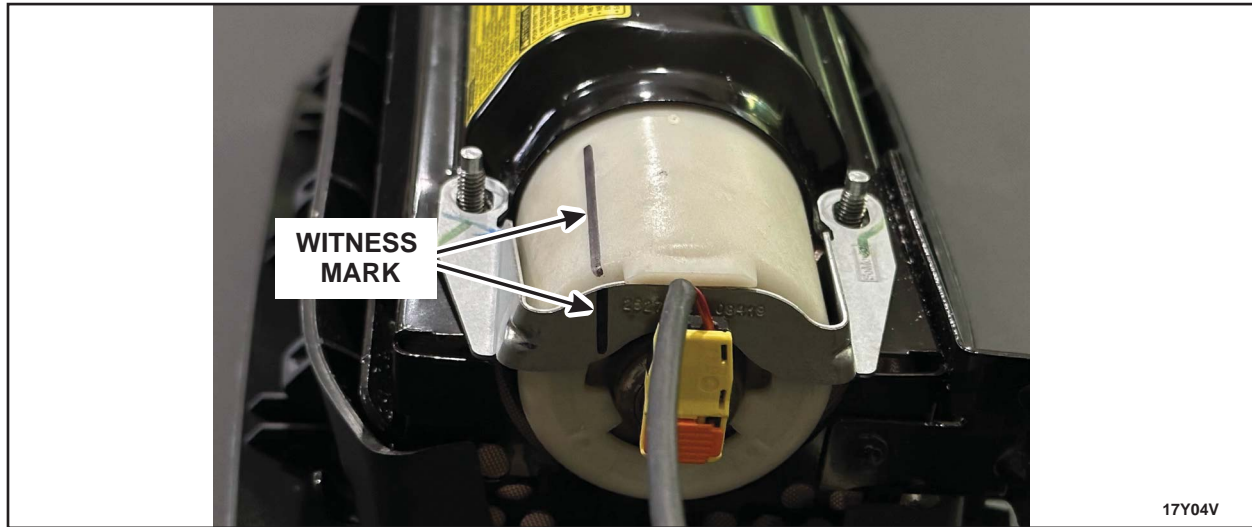

FIGURE 14
12. With the retaining bracket in place, ensure that the witness marks on the bracket and the white end cap are aligned. See Figure 14.